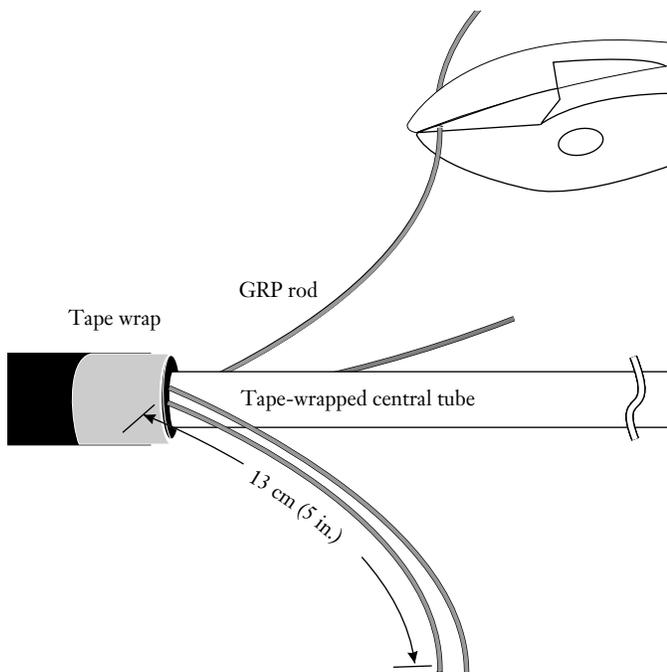

Figure 8
4.9 Use side cutters to cut the GRP rods about 13 cm (5 in.) from the tape wrap (Figure 8). **ALWAYS WEAR SAFETY GLASSES WHEN CUTTING THE GRP RODS.**